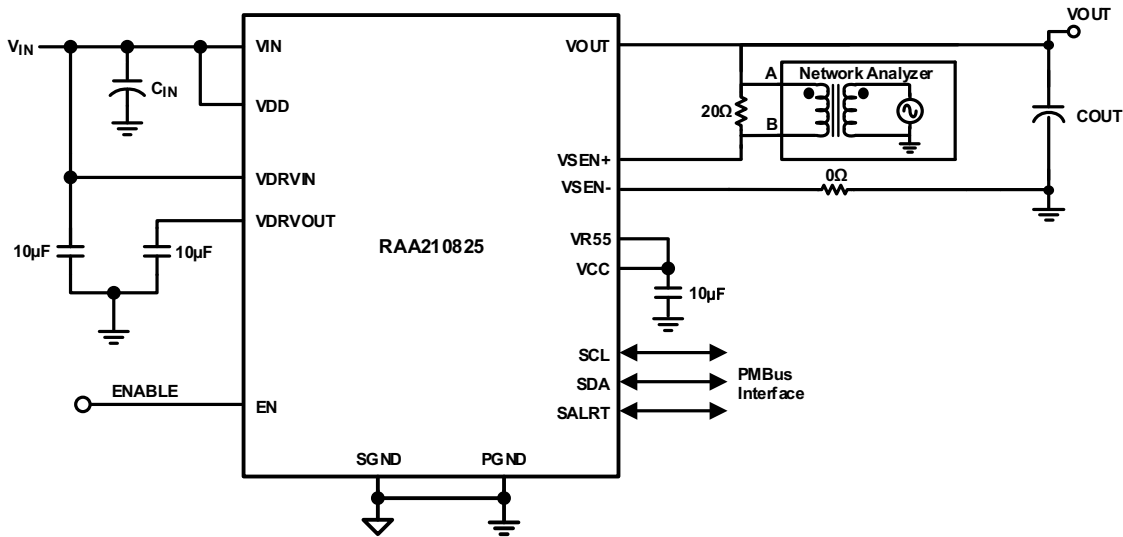

Figure 2. Network Analyzer
- (1) Break the feedback loop by removing the R9 resistor in the remote sense path, connected between VSEN+ and VOUT.
- (2) Solder a 20 $\Omega$  resistor in its place. The value of the resistor could be in the range of 10 $\Omega$  to 50 $\Omega$ .
- (3) Solder a twisted wire pair to the 20 $\Omega$  resistor. Ensure that the wires are short in length. A small twisted pair works well by minimizing noise pickup, which is important for a good measurement.
- (4) Enable the module.
- (5) Use a “Network Analyzer” to inject a small AC signal (~20mV) across the 20 $\Omega$  resistor as shown in Figure 2.
- (6) Measure the amplitudes of the signals at points A and B as shown in Figure 2.
- (7) Sweep the frequency using the “Network Analyzer” to observe the bandwidth, phase, and gain margin.